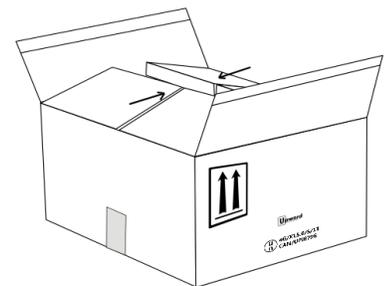

Figure 4
7. Fold 4 small flaps on top of box – tuck to form box top. (See Figure 4)